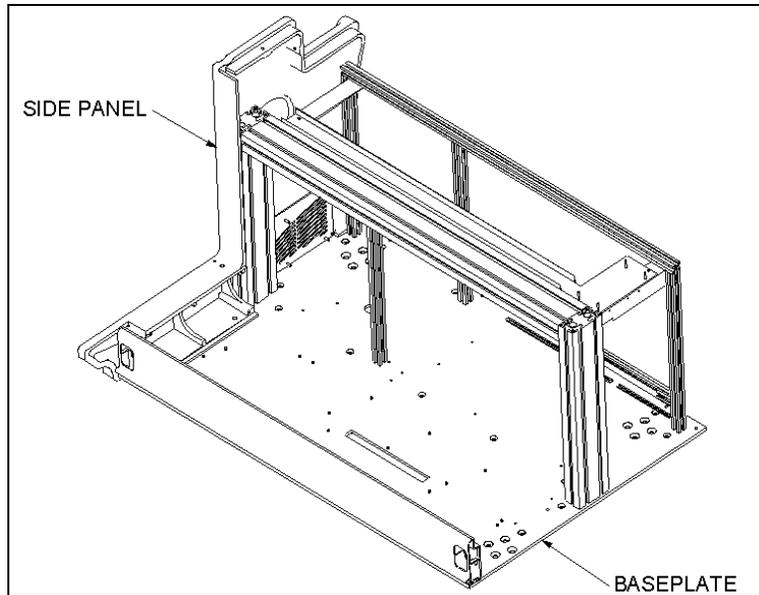

Figure 16-6 Left Side Panel
The left side panel (Part No. 204012500) is shown in Figure 16-6.
- 2 Remove the three M6 X 12mm BHCS screws that attach the left side panel from the top of the baseplate (two in front, one in rear) as shown in Figure 16-6.